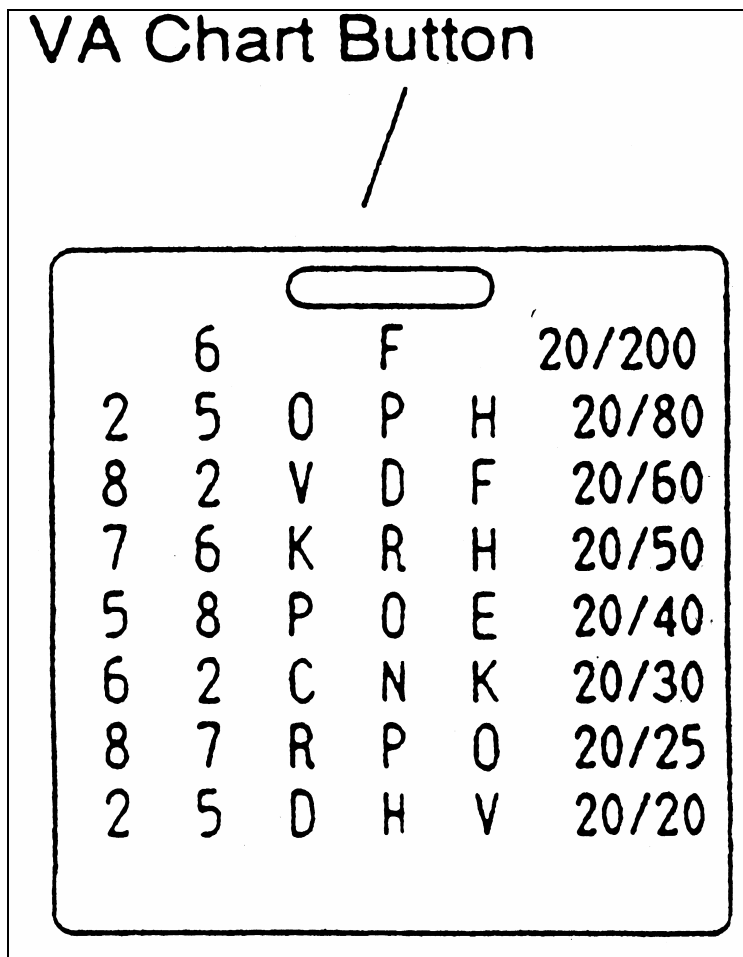

Figure 3-6. VA chart button
2. Begin by pressing the Visual Acuity (VA) Chart Button on the Selective Chart Buttons Panel. Note that the LED screen tells you that the whole VA chart is displayed.
6. Ask the SP to read the line: **Please read the numbers and/or letters on this chart slowly, starting from left to right (see Figure 3-6).**